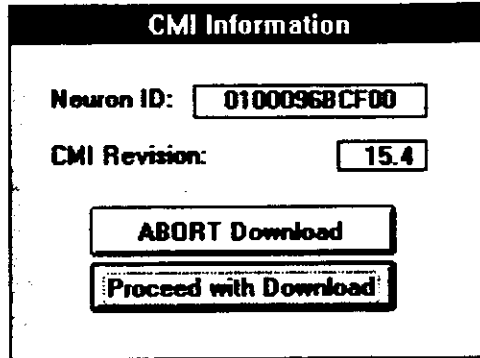

Figure 4-5. CMI Information Dialog with Download Options
- g. A message to read the CMI’s software version number will be sent. The response message will appear as shown in Figure 4-5. If the version number is an older revision than what is to be downloaded, press the Proceed with Download button, and the CMI transceiver will be loaded with the new software. Should the message show that the CMI already has the latest software version, the download may be stopped by pressing the ABORT Download button. If the download is aborted, there will be no change to the CMI transceiver’s software.